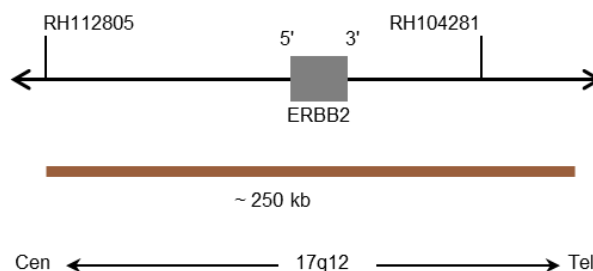

Fig. 1: SPEC ERBB2 probe map (not to scale)
- Digoxigenin-labeled polynucleotides (~1.8 ng/μl), which target sequences mapping in 17q12* (chr17:37,725,661-37,973,541) harboring the ERBB2 gene region (see Fig. 1).